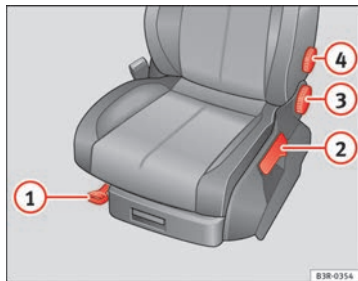

Fig. 105 Adjuster controls on driver seat
- Lift the lever ① ⇒ fig. 105 and move the seat to the desired position.
- Then release the lever ① and move the seat further until the catch engages.
- Pull the lever ② ⇒ fig. 105 up repeatedly until the seat is in the desired position.
- Turn the adjuster wheel ③ ⇒ fig. 105 to set the angle of the backrest as required.
- Do not exert any pressure on the backrest and turn adjuster wheel ④ ⇒ fig. 105 to adjust lumbar support.